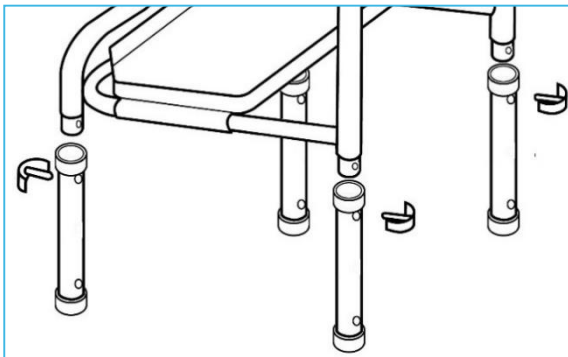

Figure 4 – Attaching the Legs
- Slot the leg tube over the ends of the trolley frame, figure 4.